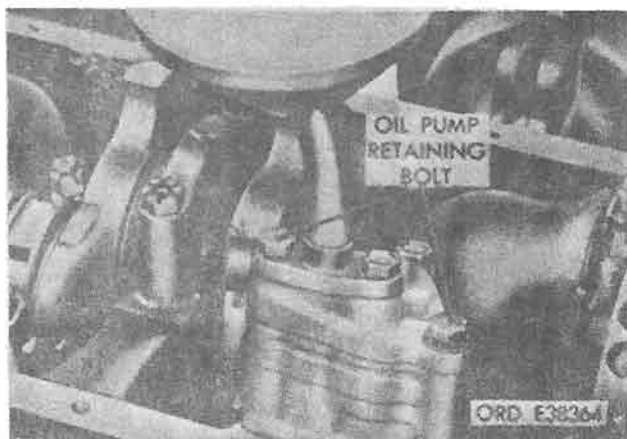

Figure 4-90. Oil pump retaining bolts.
b. Oil Pump Retaining Bolts. Remove two outer hex-head bolts, lockwashers, and flat washers retaining oil pump to cylinder block (fig. 4-90).